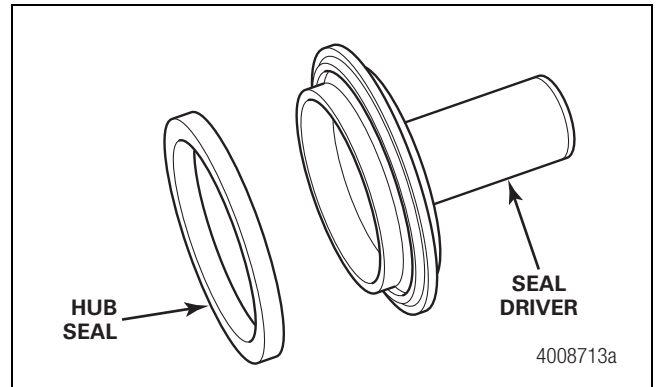
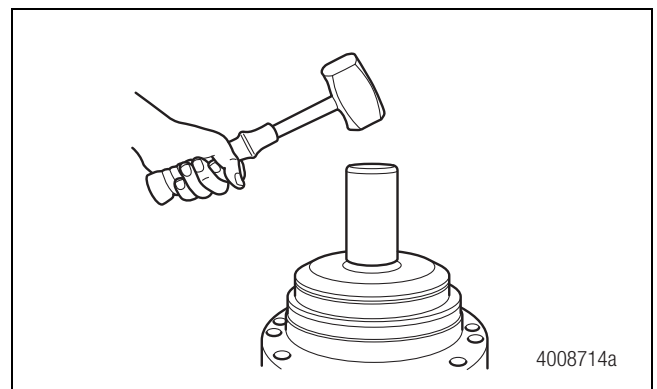

Figure 12.9
Figure 12.10
10. Use the appropriate seal driver to install seal into the hub. Refer to Section 21 for a tool drawing. Figure 12.9 and Figure 12.10.